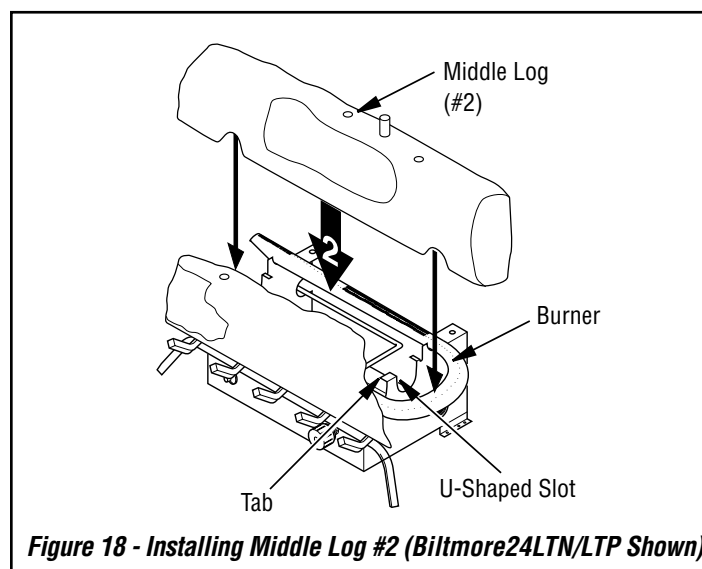

Figure 18 - Installing Middle Log #2 (Biltmore24LTN/LTP Shown)
2. Place base of middle log (#2) in U-shaped slots of grate base. Cutout on right of middle log should fit over burner (see **Figure 18**). Make sure front of middle log is resting on tabs of grate base.